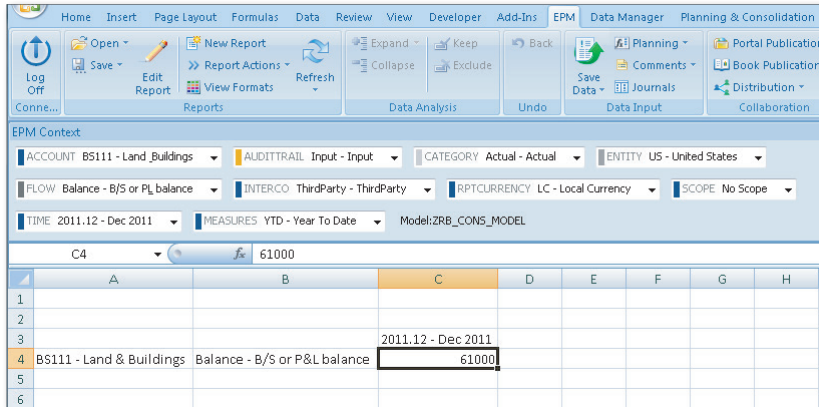

Figure 9.4 Configuring Carry Forward Balance Business Rule—Part D
4. Figure 9.4 displays the closing value for LAND & BUILDINGS for the US entity for the December 2011 period. In this example, the flow BALANCE represents the closing balance.